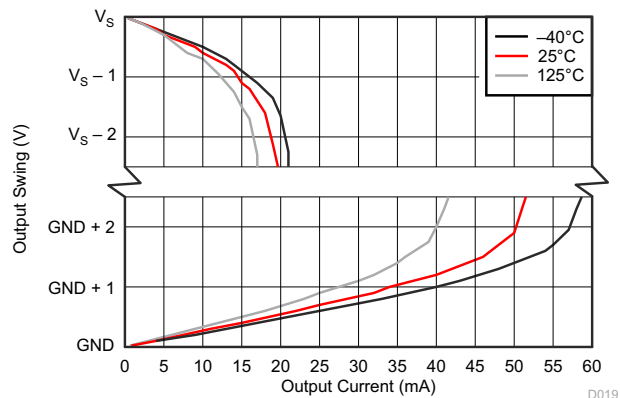

FIG 7-19. Output Voltage Swing vs. Output Current
(2) Offset voltage is obtained by linear extrapolation to $V_{SENSE} = 0\text{ V}$ with $V_{SENSE} = 10\%$ to 90% of full-scale-range.
(3) See Figure 7-19.